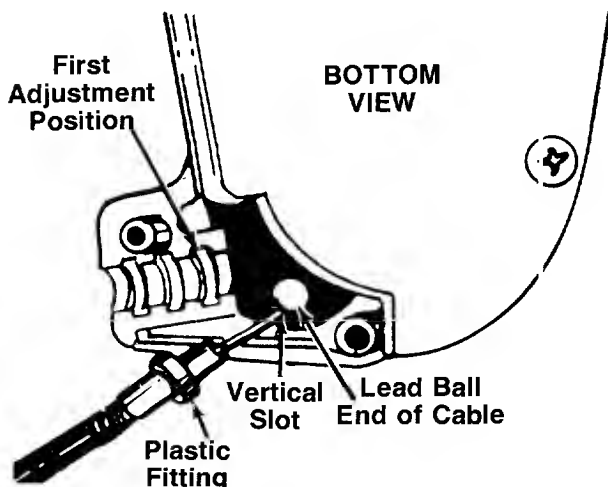

FIGURE 7.
1. Place the lead ball end of the cable into the fitting provided in the end of the clutch control lever. Slip the braided wire into the vertical slot as shown in figure 7.
3. Place the plastic fitting on the control cable into the first adjustment position in the clutch control housing. See figure 7.